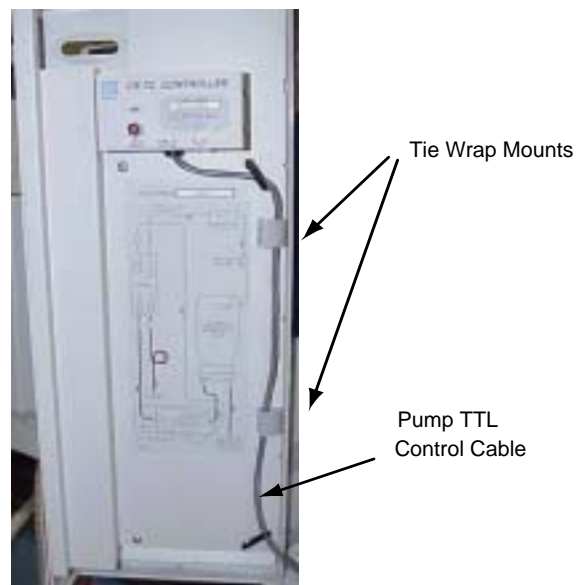

Figure 8
- E. Carefully place the two Tie Wrap Mounts with Adhesive (P/N 0216091, see Figure 2, item 4) along the right edge of the new door label. Using the lower right screw on the door, attach the second Vinyl Coated Tubing Clamp (P/N 056128). These mounts and clamps will be used to hold the three cables which will extend from the CR-TC Controller Box and down the face of the door. See Figure 8
- F. Route the Pump TTL Control Cable down the face of the door, secured by the two Vinyl Coated Tubing Clamps and two Tie Wrap Mounts with Adhesive. See Figure 8.